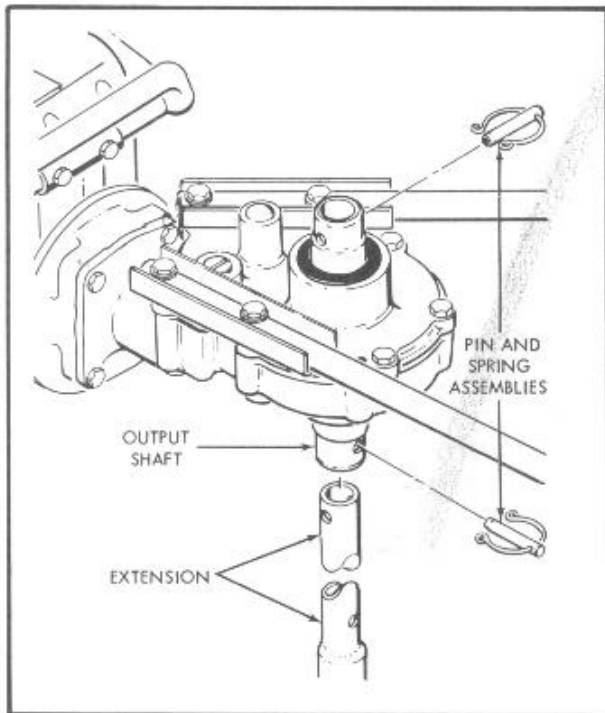

Figure 2. Install Auger Extension
2. Insert the auger extension up through the drive shaft in the gear housing. Line up the pin holes at the top and bottom of the drive shaft with the pin holes in the extension, and fasten the shaft and extension together with the pin and spring assemblies (figure 2).